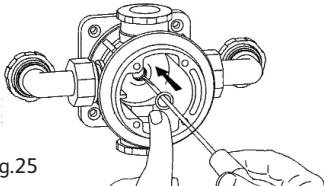

Fig.25
10. The new O-ring may be fitted into position by first sliding it onto the blade of a screwdriver. Hold the tip of the screwdriver into the hot water way and then manoeuvre the O-ring down into position (Fig 25).